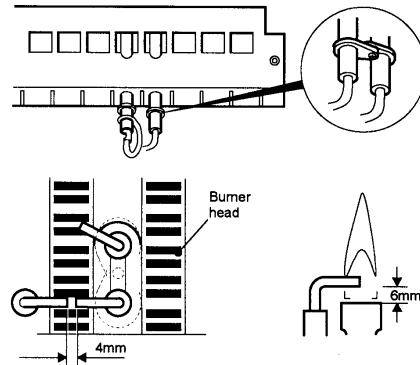

Fig. 17
Check the electrode gaps and positions (see Fig. 17) ensuring that the ignition electrode tips are:-
- 3 From underneath the burner, remove the screws securing the electrodes and withdraw them. Transfer them to the new burner. Ensure that the earth lead is connected and that the ignition electrodes are positioned before fitting the flame sensing electrode. Check the electrode gaps. See Fig. 17.
- 4 When refitting the electrodes, the earth electrode is at the left and the ignition electrode/flame sensing electrodes are at the right, secure in position with the screws previously removed. See Fig. 17.
- 5 Check the electrode gaps and positions (see Fig. 17) ensuring that the ignition electrode tips are:-